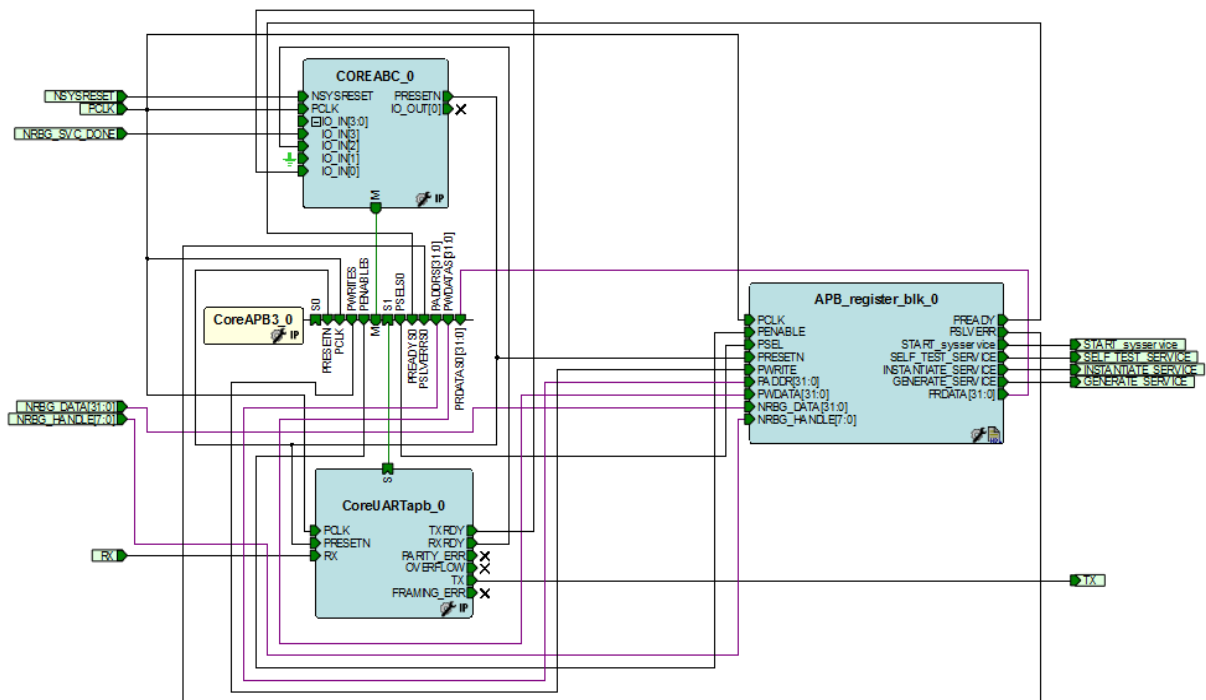

Figure 28 UART_top Block in the SmartDesign Canvas
- **CoreUARTapb_0**: Interact with the HyperTerminal. The UART block is configured with the following settings: baud rate 57600, data 8-bit, and parity none, as shown in Figure 28.